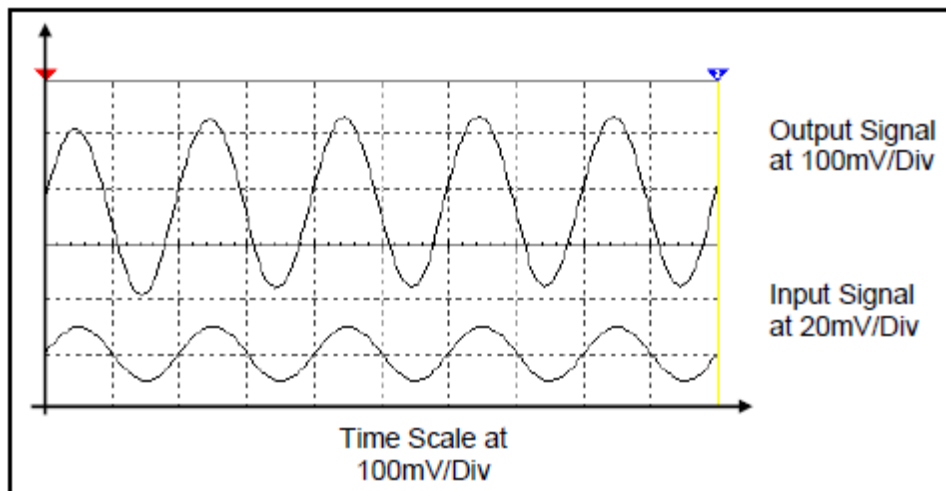

Fig.20 The output and input waveforms of a CB amplifier
- Adjust the VOLT/DIV for Ch.A and Ch.B, hence adjust the TIME/DIV of the oscilloscope; Fig.20.